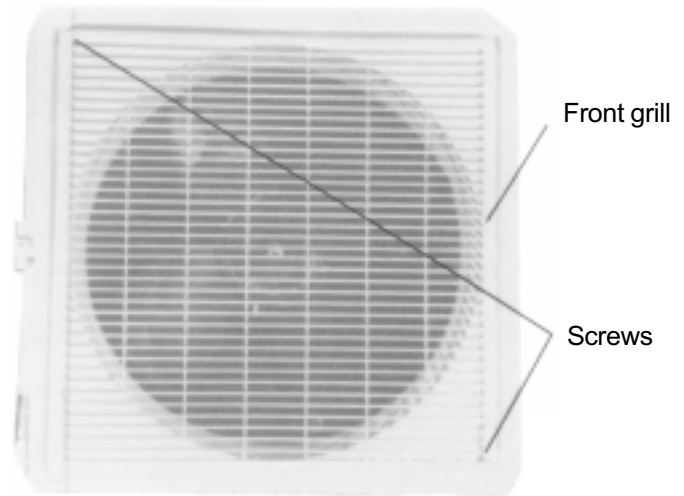

Figure 44
- ⑨ Disassemble the axial fan
- Unscrew the two self-tapping screws fixing the front grill as shown in figure 44.